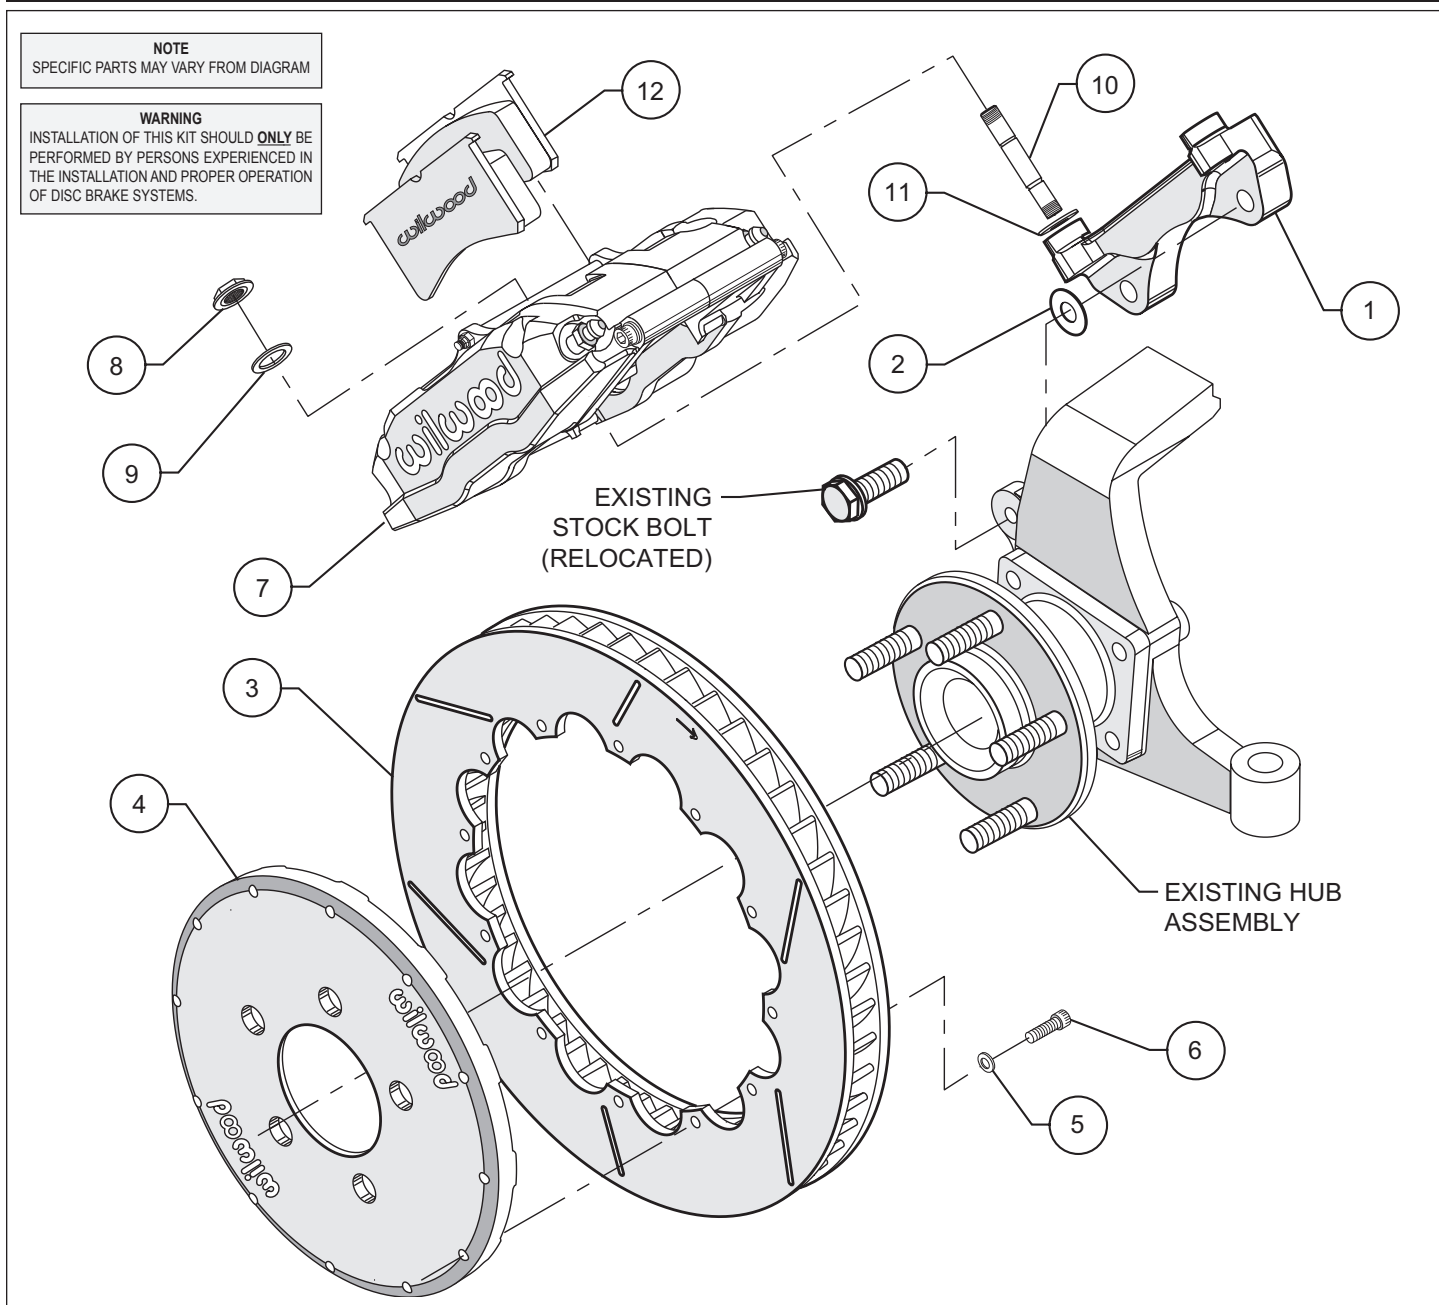

Figure 1. Typical Installation Configuration
- The caliper mount bracket assembly (1) should be installed first with clean, dry threads on the mounting bolts. Install the bracket using the original caliper mount bolts. The bolts will now pass through the spindle from the opposite direction that they were removed (see figure 1). The bracket must tighten squarely against the inboard side of the caliper mount bosses on the spindle body. Inspect for interference from casting irregularities, machining ridges, burrs, etc. Use one thin shim (2) between the bracket and spindle during initial trial fitting. Later, after the caliper, pad, and rotor alignment has been checked, and any necessary shims have been put in place, the mount bolts should be coated with red *Loctite*® 271 and torqued to 65 ft-lbs.
- Assemble the rotor (3) to the hat (4) with the bolts (6) and washers (5) provided in the configuration pictured in figure 1. Be sure all bolts thread in smoothly and are snug. Then, torque all bolts in an alternating sequence to 85 **in-lbs**. Safety wire bolts (6) using standard 0.032 inch diameter stainless steel safety wire as shown in Figure 3. Please refer to Wilwood's data sheet DS-386 (available at [www.wilwood.org/ds386.pdf](http://www.wilwood.org/ds386.pdf)) for complete safety wire installation instructions.
- NOTE:** Please reference the caution statement at the beginning of the assembly instructions. Install one shim (11) over each stud (10) on the radial mount bracket. Slide the caliper (7) in place over the studs and rotors and install the washer (9) and lock nut (8) to hold the caliper in place. The caliper bleed screws should be pointing up. Snug the lock nuts (8) and check that the rotor (3) is centered in the caliper (7). Add or subtract .035" shims (2) as necessary between the mount bracket and the spindle to center the caliper.
- Remove the caliper center bridge pad retainer bolt, nut, and tube from the caliper. Slide the brake pads (12) into place. They should install easily without interference. Check that the outside radius of the brake pad is aligned with the outside diameter radius of the rotor face. Add or subtract shims (11) between the caliper and mount bracket to gain the proper alignment. Reinstall the center bridge pad retainer tube, bolt, and lock nut. The locknut should be snug without play in the bolt or tube. Be cautious not to over tighten.